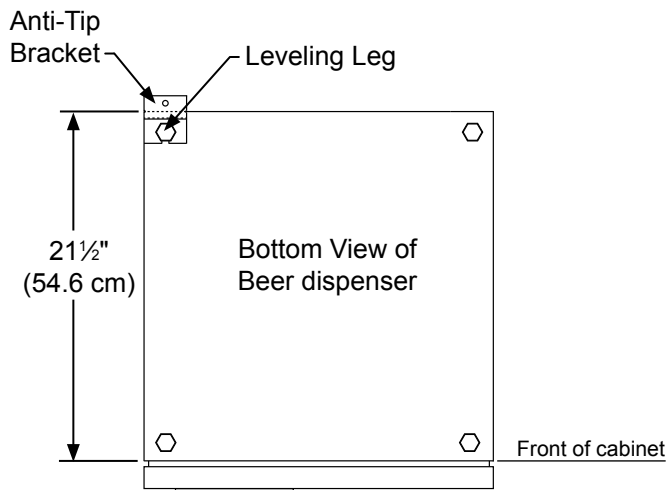

Figure 6
The anti-tip bracket is to be located on the floor in the left or right rear corner of the beer dispenser as shown in Figure 6.
- 3) Make sure the beer dispenser is in the desired location, then mark on the floor the rear and side corner of the cabinet where the anti-tip bracket will be installed. If the installation does not allow marking the rear corner of the cabinet, then make temporary lines on the floor marking the front corner of the cabinet, excluding the door. Slide the beer dispenser out of the way. From the temporary line extend the sidewall line back 21½" (54.6 cm) as shown in Figure 6.